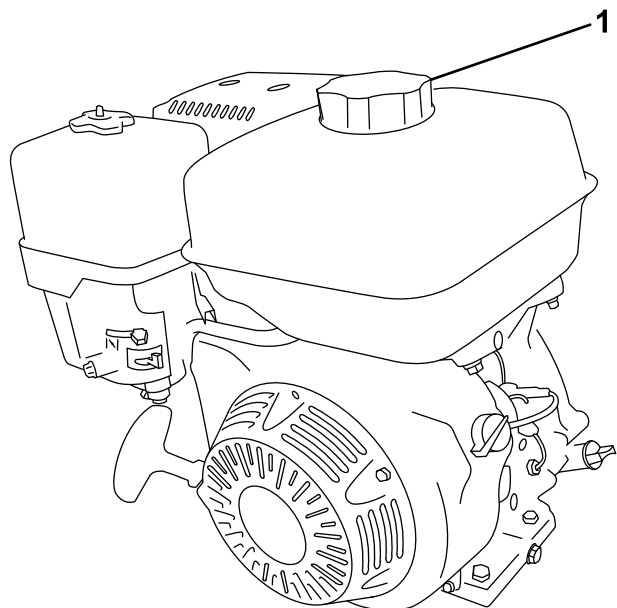

Figure 26
2. Clean around the fuel cap and remove it (Figure 26).
4. Install the fuel cap securely (Figure 26).